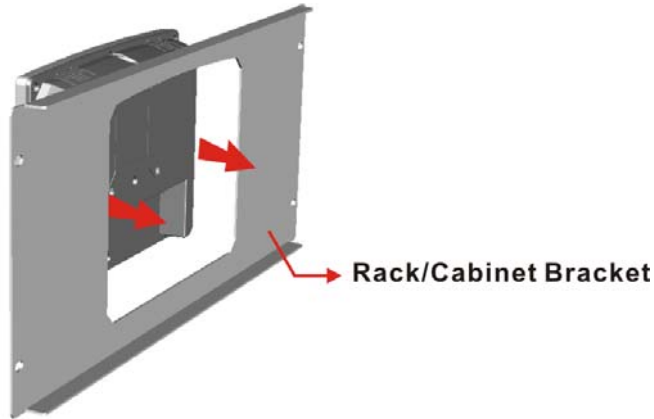

Figure 3-28: The Rack/Cabinet Bracket
Step 2: Slide the rear of the PPC-FxxA-H81 flat panel PC through the rack/cabinet bracket until the aluminum frame is flush against the front of the bracket (**Figure 3-28**).